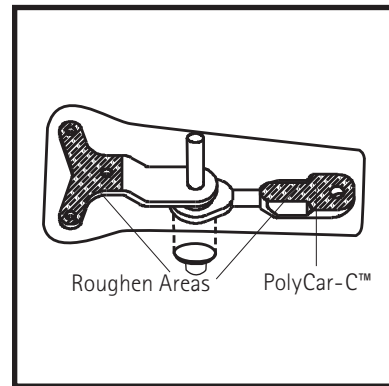

Figure 4: PolyCar-C™ Placement
7. Roughen underside of the ankle joint with sand paper as shown in Figure 4. Roughen only the areas you want to bend to the PolyCar-C™. Clean both ankle joints and PolyCar-C™ with a solvent or alcohol to remove dirt and oil.
9. The PolyCar-C™ will appear soft and glazed when it is ready for molding and bonding. (Caution: The PolyCar-C™ will not bond if it gets too hot). After the PolyCar-C™ and ankle joint assemblies are heated sufficiently, position the ankle joint assembly on the PolyCar-C™ as shown in Figure 4. Replace back in oven for 1-2 additional minutes.